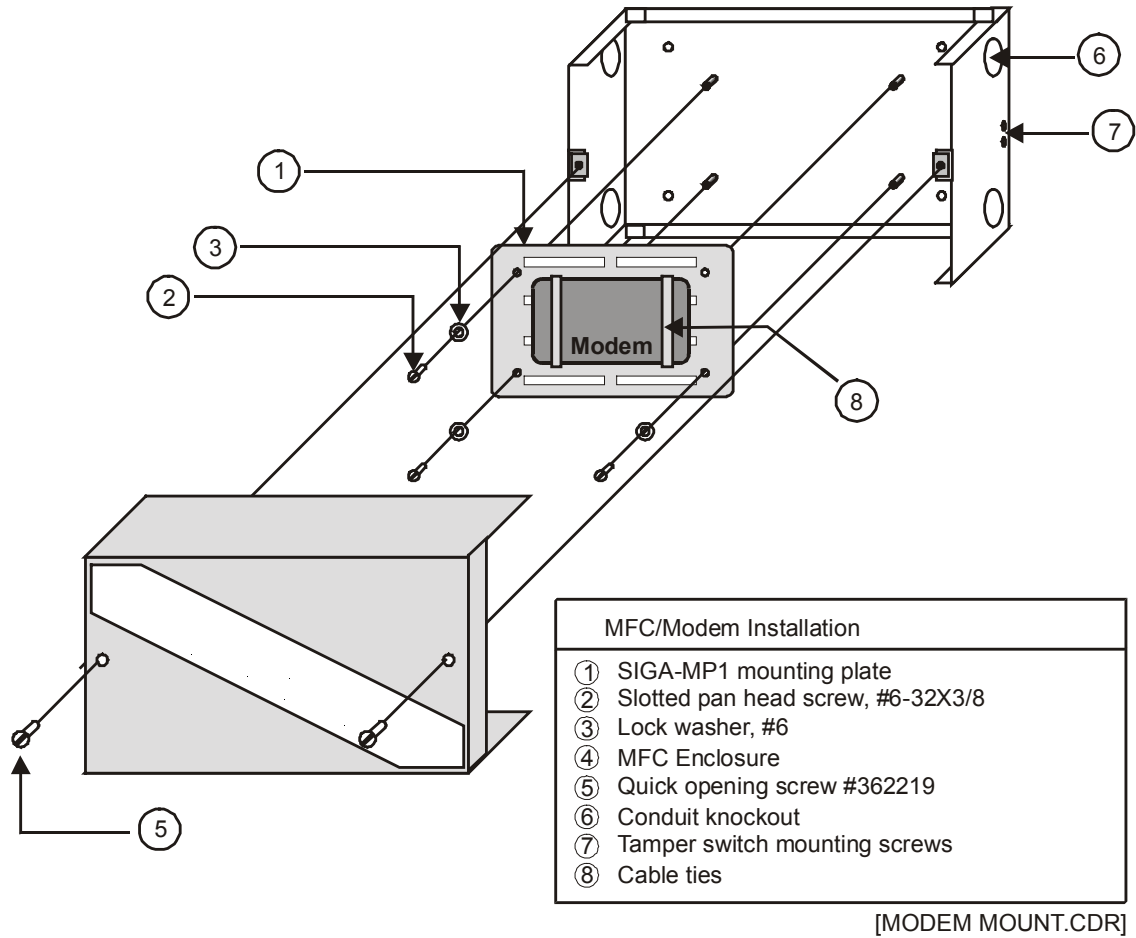

Figure 2-6: Suggested modem installation using MFC and SIGA-MP1
1. Mount the MFCA enclosure back box at an acceptable location within reach of the panel. Refer to Figure 2-6.